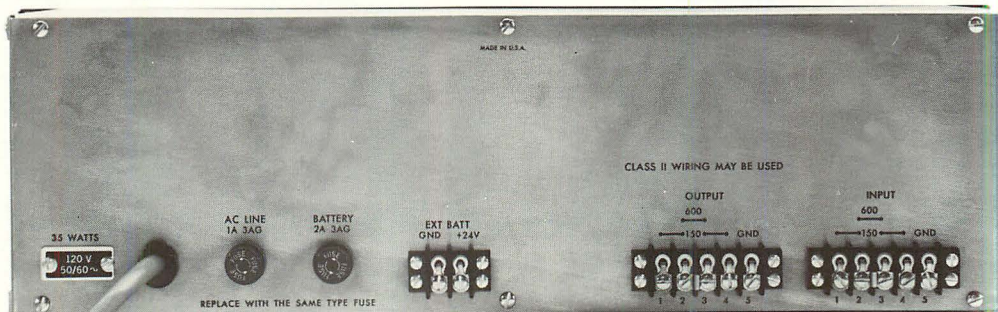

Figure 2. Electrical Connections
Equipment supplied for domestic use is provided with the power transformer strapped for 120 volts (terminals 2 to 3 and 4 to 5 on TB4). The power input nameplate on the chassis adjacent to the power cord is mounted to show the appropriate side specifying the connections (see Figure 2). Verify that line voltage is in accordance with the voltage rating before connecting the 9860A to line power.
- Step 6. Change ac line fuse (F1) from the existing 1A fuse to a 1/2A fuse (see Figure 2). Place a 1/2A ac line rating tag on tag on the back of the 9860A, above the AC LINE fuse.
If desired, the 9860A may be connected to an external 24/28V battery with minus (-) as ground. Terminals for the dc power connections are on TB3 (see Figures 2 and 11). If ac power fails, transfer to dc power is instantaneous, automatic and silent.
Input to the 9860A is connected to the INPUT terminal board (TB1) on the rear panel of the chassis (see Figures 2, 5 and 11). Connections to ALTEC power amplifiers must be made with two-conductor, twisted and shielded cable, such as Belden 8450 or 8451 cable.
Output from the 9860A is connected to the OUTPUT terminal board (TB2) on the rear panel of the chassis (see Figures 2, 5 and 11). Terminal connections and cable requirements are the same as described for input connections.
Fuses for ac line power (F2) and battery power (F1) are mounted on the rear of the chassis (see Figure 2). If replacement is required, determine and correct any cause of failure before replacing fuse. Install an identical fuse (see **PARTS LIST**) by unscrewing fuse holder, replacing fuse and resealing fuse holder.